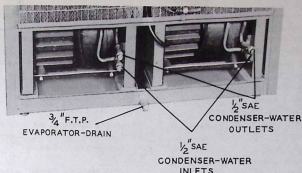

Figure 3. Rear View of Units Installed in Air Conditioner
4. At the rear of the unit, disconnect the condenser water inlet and outlet connections. (See figure 3.)